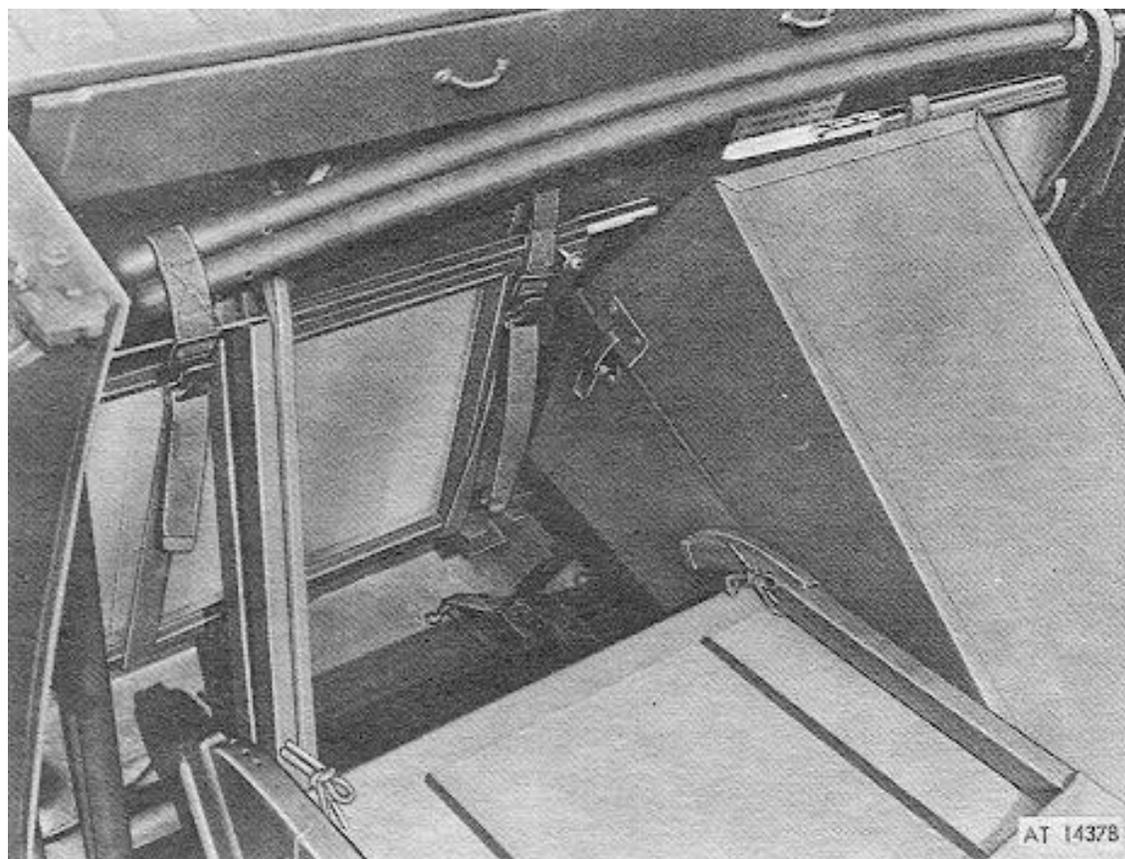

Figure 17. Left fixed window stowed.
8. Stow left door fixed window glass behind driver's seat with two 1" x 39" straps. See figure 17.